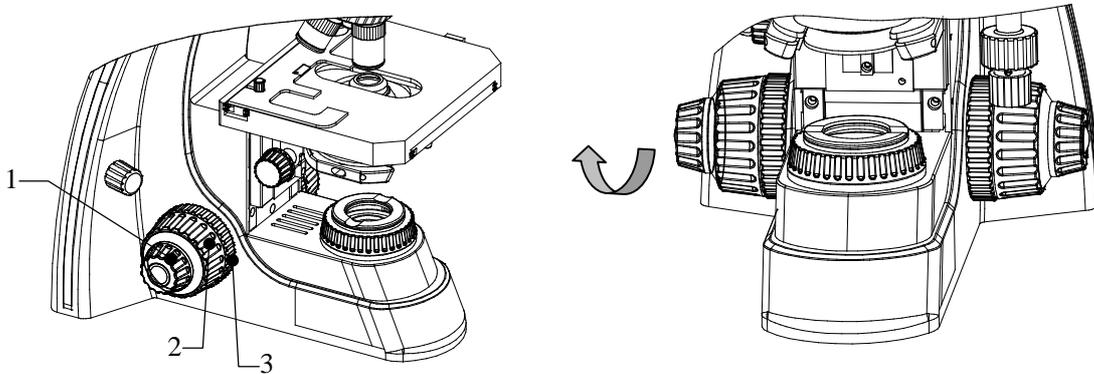

Fig.10
- (1) The control knob 1 is for fine focusing, the control knob 2 is for coarse focusing。 Turn the coarse focusing control knob 2 anticlockwise to lift the objective and clockwise to lower it. As shown Fig.10
- (2) Put the 10X objective into the light path with the turn of nosepiece (When turn into the right position, the objective will has a automatic halt.).
- (3) Turn coarse control knob unit the stage in the highest position, observe through the eyepieces, slowly turn coarse control knob, with the stage slowly down, to focus until the image clear and stop turning.
- (4) Turn fine control knob to precision focus for a clearly image.
- (5) The knob 3 is to lock the stage position of height; this function is making sure the long working distance of objective not to be touched with stage or simple. When the stage be locked in the preset position with turn the coarse, you can rapidly focus the image clear.